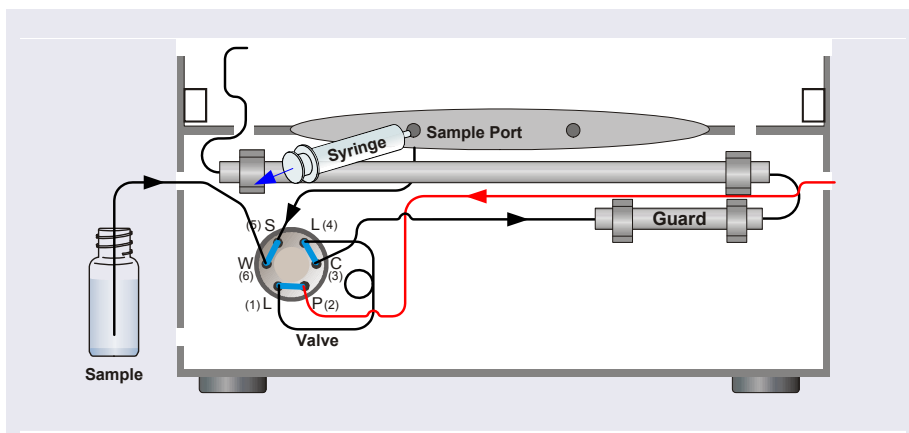

Figure 5-8. Loading Sample with a Vacuum Syringe (Pull Method)
2. Disconnect the waste line from the injection valve and replace it with a 25 to 30 cm (10 to 12 in) piece of PEEK or PTFE (polytetrafluoroethylene) tubing (see Figure 5-8).
5. Insert a 5 cc syringe into the sample loading port on the DC front door (see Figure 5-8) and pull out the plunger to draw the sample into the injection valve.